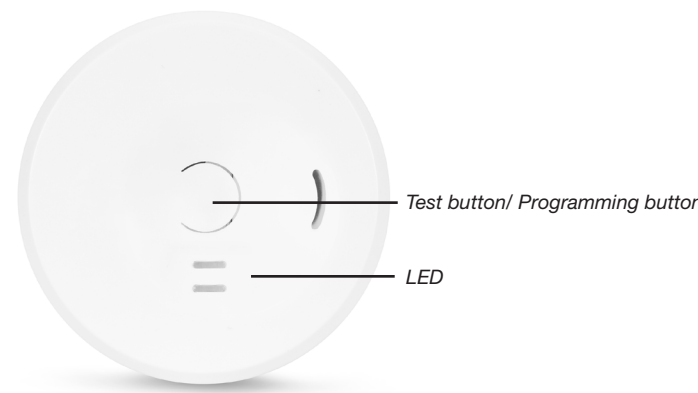

Figure 7
- Before the smoke alarm is fitted on the mounting plate, a function test must be performed (with power supply from 9V battery) by pressing in the test button on the smoke alarm, which should then emit a load pulsating signal. See figure 7.
- Turn on the current and then test that the smoke alarm is functioning by pressing in the test button. See figure 7.
1. Hold down the master device's programming button until the LED indication lights up red. The master device is now in programming mode and ready to receive the radio code from the other alarms. The master device remains in programming mode for about 30 seconds before returning to normal mode. See figure 7.